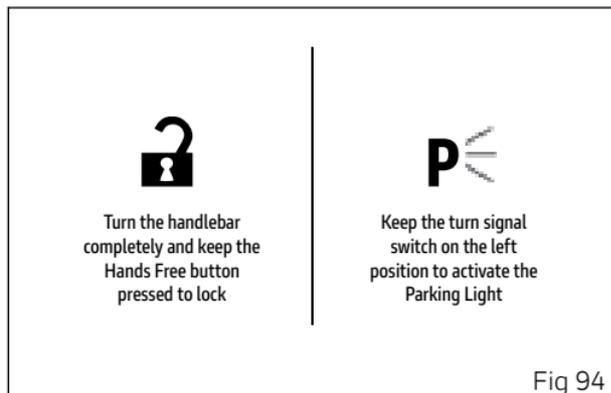

Fig 94
If you wish to engage the steering lock, while the screen (Fig 94) is displayed, turn the handlebar completely and press and hold button  (1) for approx. 2-3 seconds.
If you wish to switch on the parking light while the screen (Fig 94) is displayed, press and hold button (2) on the left turn indicator position.